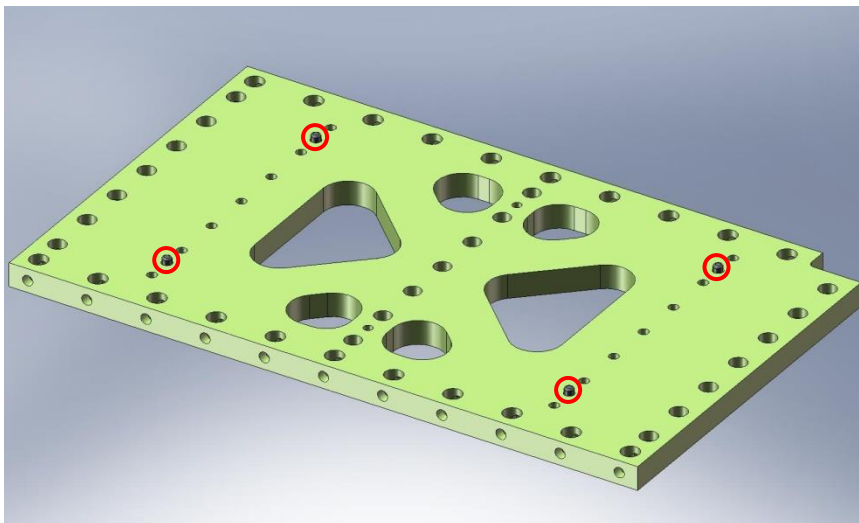
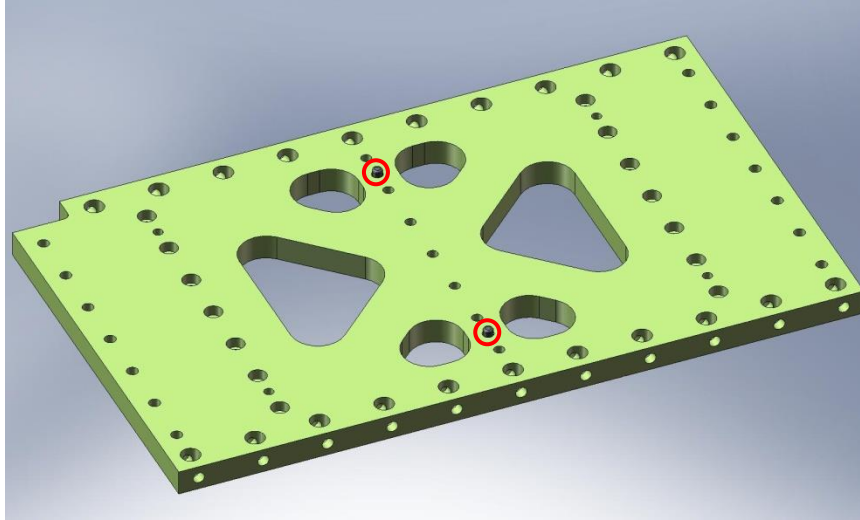

Figure 3.6. Dowel pins pressed into one side of Tangential Rib (D071052).
Figure 3.7. Dowel pins pressed into opposite side of Tangential Rib (D071052).
- Insert Heli-Coils in (3) **Rib, Tan, Flexure Mid** plates (D071071).
- Press (4) 3/8"x.75" dowel pins into one side of each of (3) **Rib, Tan, GS-13 Mid** plates (D071052), as shown in Figure 3.6. The pins should all stand .25" proud of the plate surface. For each plate, press (2) more 3/8"x.75" pins into the opposite face, as shown in Figure 3.7. Again, the pins should sit .25" proud of the plate surface.